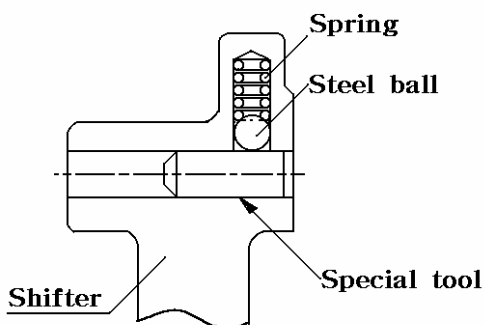

Fig.5-55
(3) Reassembly
c. When installing the shifter on the shifter stay, Use the special tool as shown in **Fig.5-55**